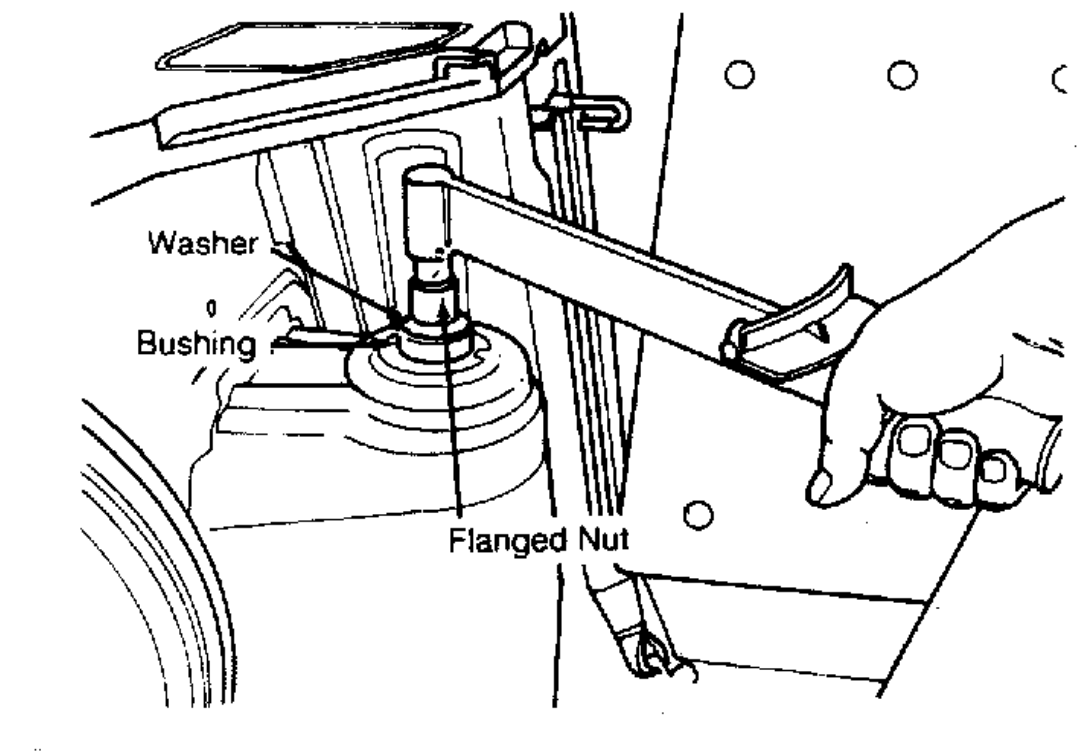

Fig. 4: Installing Strut Flanged Nut
3. Line up strut lower end with mounting hole in wheel support arm. Install mounting bolt to hold strut in position. Working from inside cargo compartment, install rod upper end bushing, bushing washer and flanged nut. Tighten nut to 12-18 ft. lbs. (16-24 N.m). See Fig. 4. Hold flanged nut while tightening jam nut to lock it in position.